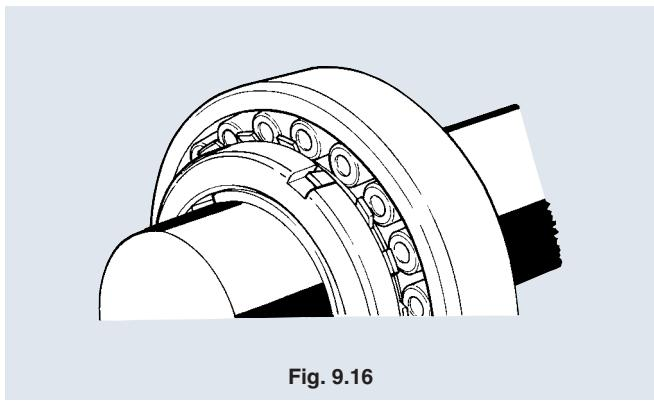

Fig. 9.16
(8) Make sure the bearing clearance is as specified, then bend one tab on the washer that corresponds with the cutout on the circumference of the nut to maintain the adjustment (**Fig. 9.16**). Do not loosen the nut to allow the cutout to match the tab.